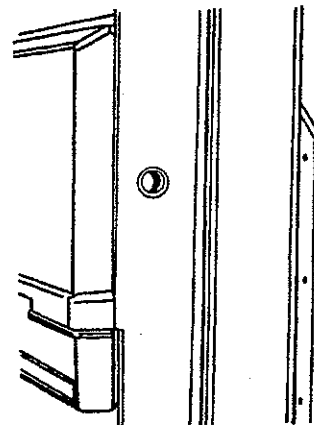

Figure 7
- c. Locate air inlet, allowing freezer air to pass to beverage chiller, on interior wall of refrigerator door. See Figure 7.